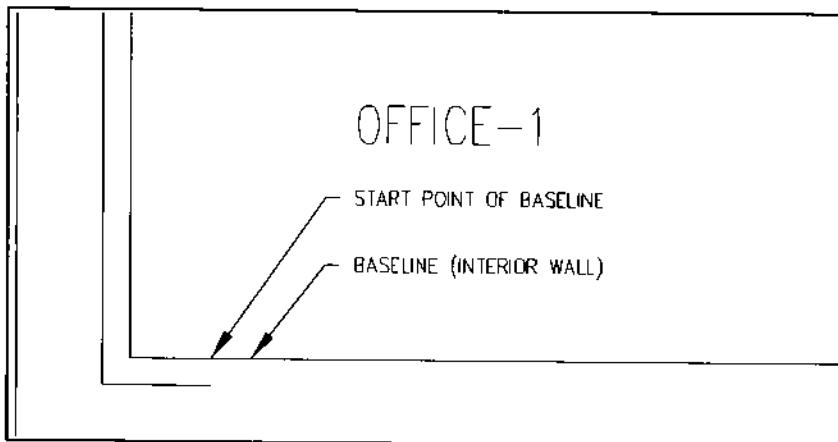

Figure 31.
- > Pick first baseline endpoint: **ENDP of [endpoint of interior wall line as shown in Figure 31]**